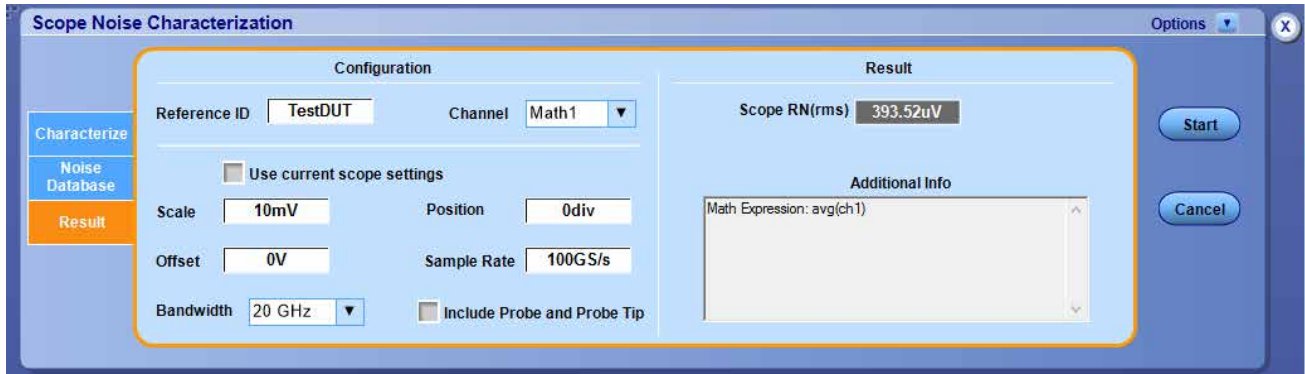

Figure 29: Showing Math expression in "Additional Info" box
- The warning icon  may appear beside ScopeRN value and the error/warning message is described in the Additional Info box. The Math function will also appear if a math channel is selected for the noise query, as shown in Figure 29 on page 29